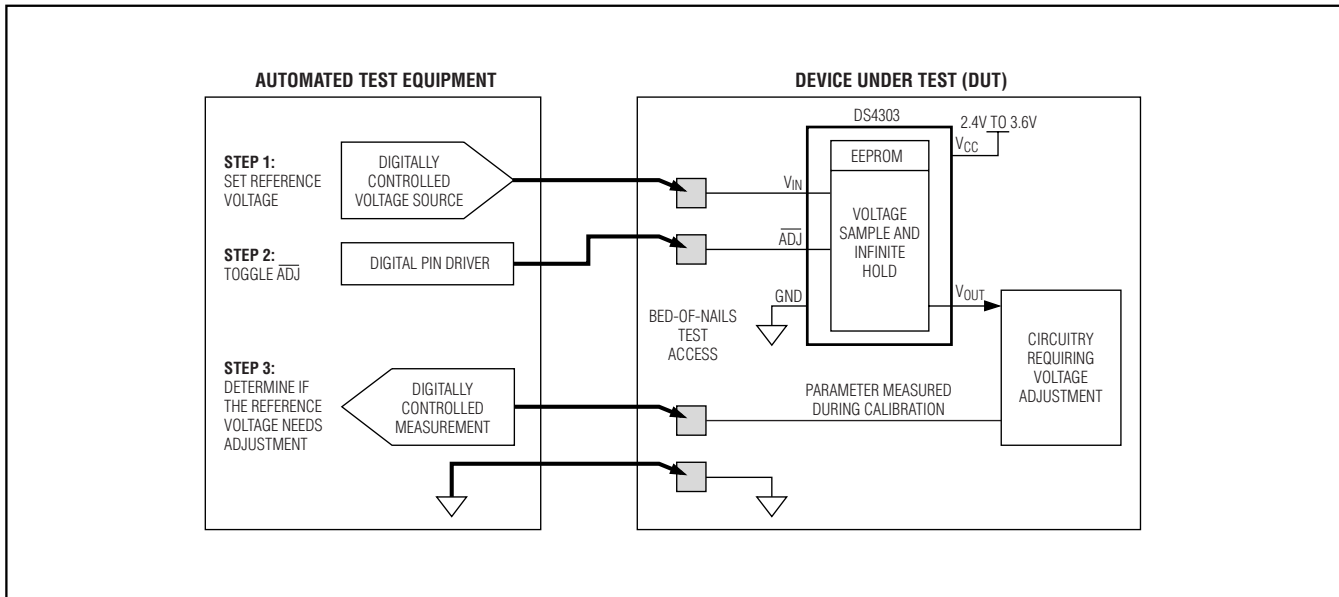

Figure 2. Application Circuit
Figure 2 details an example of how the DS4303 can be adjusted in an application. During factory alignment, a three/four-node bed-of-nails is used to: (1) provide the adjustment voltage through the V_{IN} pin, (2) control the \overline{ADJ} input, and (3) sense the needed feedback parameter. During manufacture, an automated test procedure adjusts V_{OUT} , by changing V_{IN} , until the feedback parameter is optimized. After the bed-of-nails operation is complete, both the V_{IN} and \overline{ADJ} inputs are left open